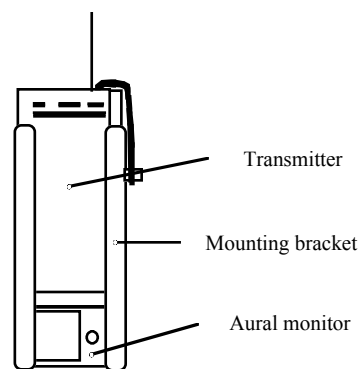

FIGURE 1: EBC-502H
The EBC-502H is an Emergency Locator Transmitter (ELT) designed for helicopter installation. It meets the requirements of TSO-C91a in the Portable(P) and Automatic Portable(AP) categories. (See Figure 1.) It is designed to be mounted anywhere in the cabin of the aircraft, within reach of the pilot or co-pilot. As with all EBC ELTs, the increased survivability needs of cabin mounting have been met. The electronics and the activation system are completely encapsulated, and extra protection has been provided for the crystal. Our encapsulation method also provides added protection against shock and moisture. The unit transmits simultaneously on both the civil 121.5 MHz and military 243.0 MHz emergency frequencies.